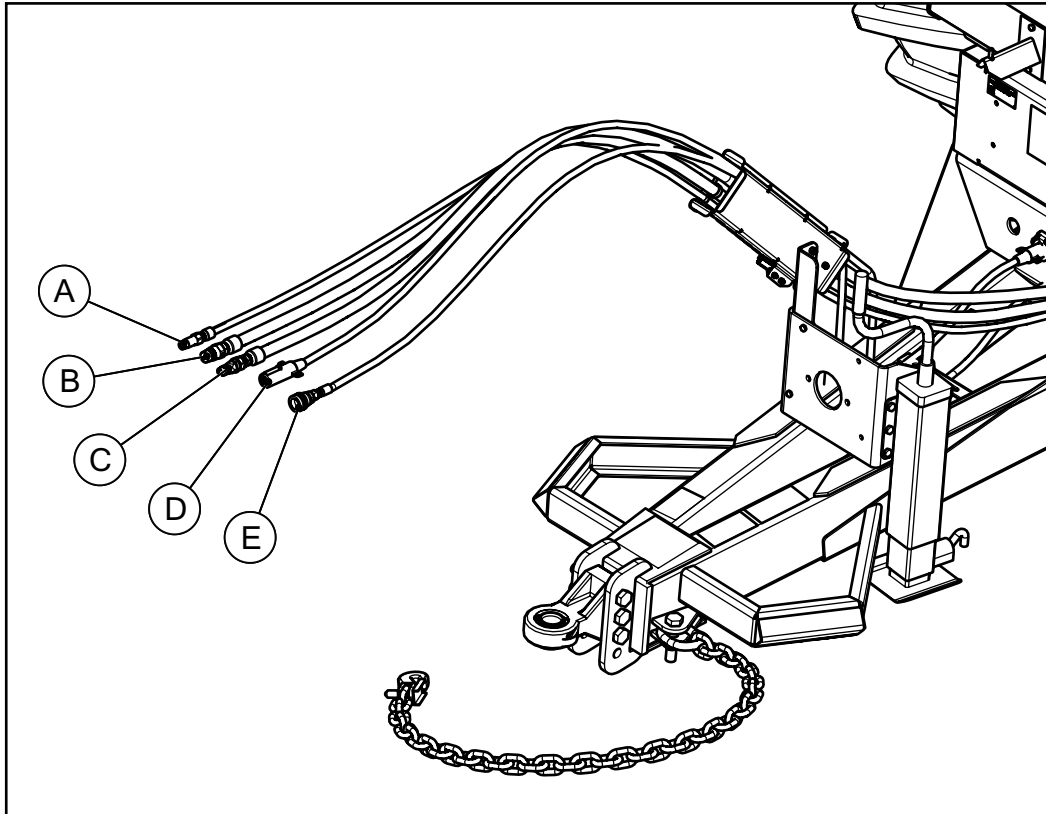

Figure 10
10. Connect hydraulic and electrical hookups to appropriate tractor hookups (Figure 10).